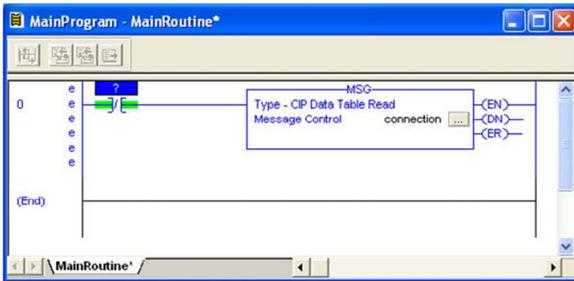

Figure 91: MainRoutine
- e) Click “OK” to close the MSG Configuration dialog. At this stage, MainRoutine should look like Figure 91.